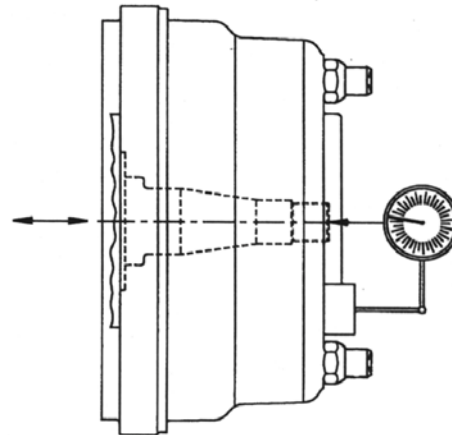

Figure 5 - Wheel Endplay Measurement
6. Attach a dial indicator with a magnetic base to the face of the hub. See Figure 5. Note the brake drum is shown for reference only.
3. Check oil level through the hubcap window. See Figure 5. If level is below the "add" level line, then fill with recommended oil until "full" level is achieved. Add oil slowly since the heavy weight oil will settle slowly in the hub. (Note: The hub cap window can only be cleaned with mild soap and water. Aromatic solvents should not be used, as they will impair the transparency of the window.)